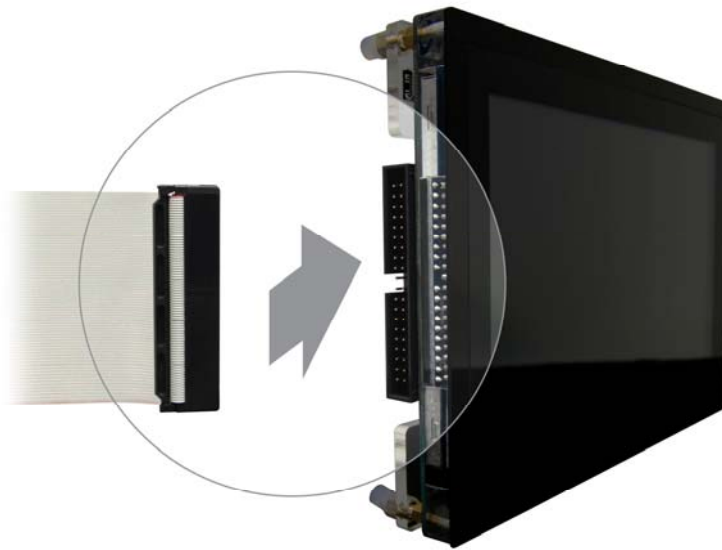

Figure 1-5 MTL connection for the IDE cable
1. Connect the IDE cable to the IDE connector on the back of the MTL as shown in the **Figure 1-5**.